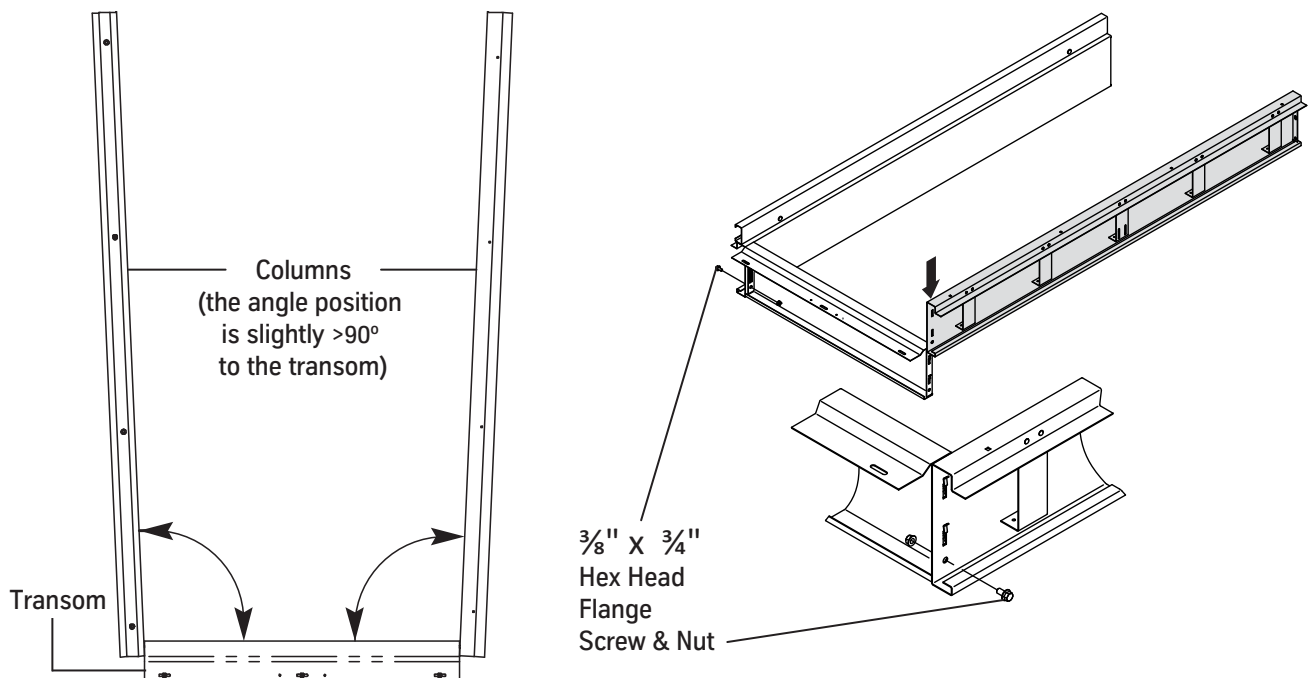

Figure 54 - Assemble the Frame
1. Place the entrance columns and transom face down, and position each column at a slight angle to the transom. See Figure 54.